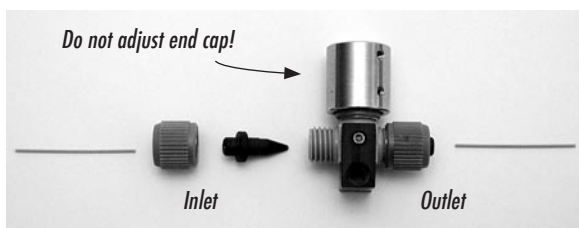

Figure 5.18: MicroTee with sleeves
- 1) The MicroTee joins the transfer line to the PicoTip® and supplies the high voltage. Remove the MicroTee from the PicoView components box. Orient the MicroTee as shown in Figure 5.18 so that the platinum electrode is facing away from the user and the setscrews are visible. Unscrew the nuts and remove the black MicroFerrules from the posts of the MicroTee.